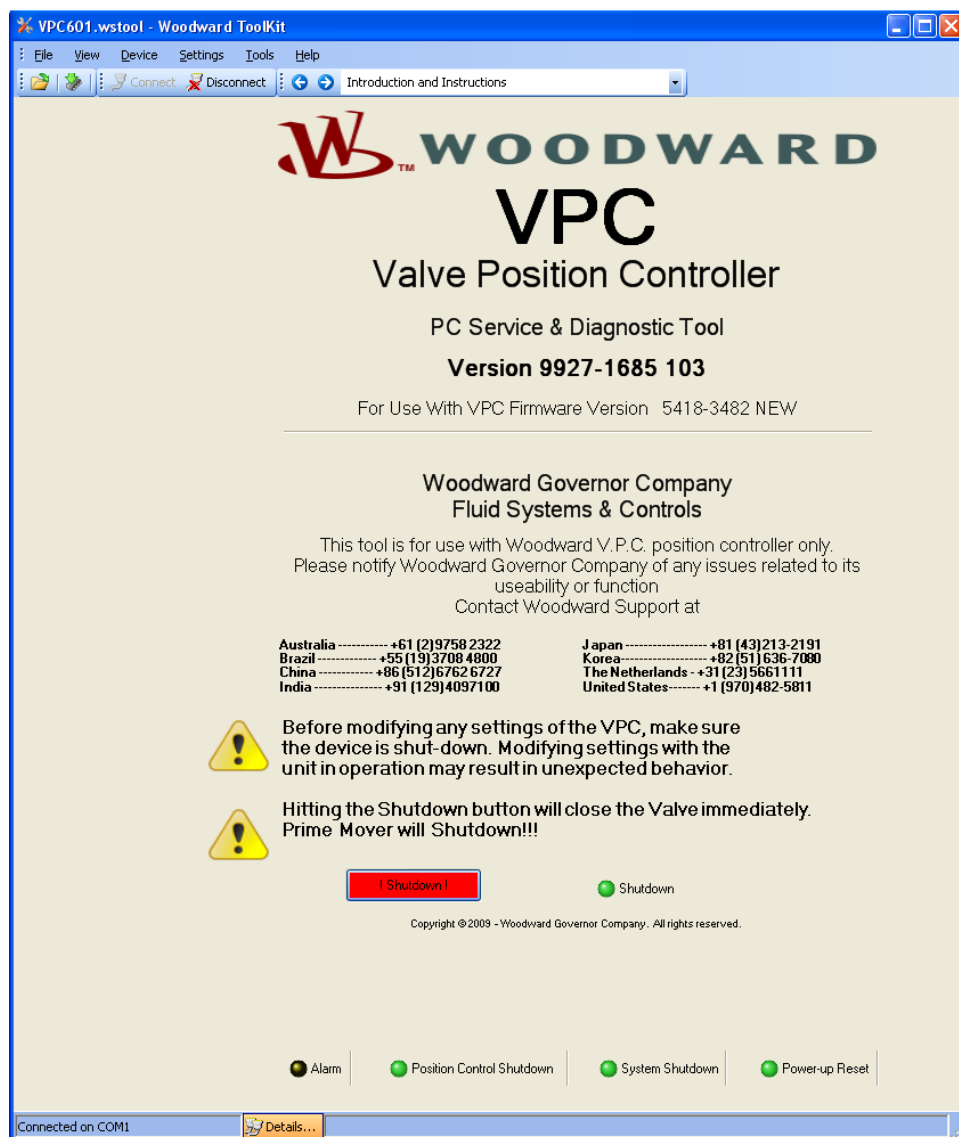

Figure 4-6. Introduction and Instruction Screen
This VPC Service Tool introduction page contains important information of the tool version and WT6 firmware. It provides information to contact Woodward Technical Support for assistance. Status LEDs and Shutdown button are also provided on this page (Figure 4-6).
- Introduction and Instructions**—Displays the status of tool and support information (Figure 4-6).